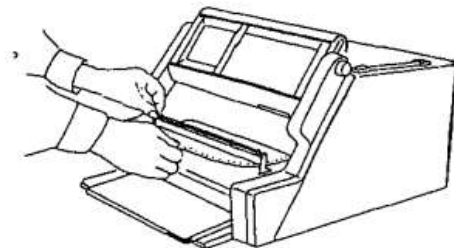

Fig. 3.1-6
- (4) When the chart paper comes out above the drum, set the right and left perforations into the sprocket of the drum and close the chart paper board. (Refer to Fig. 3.1-6)
- (5) Raise the chart paper holding arm. Pass the chart paper under the chart paper cutter and return the chart paper holding arm to the original position.
- (6) Press the FEED key to confirm that chart paper feeds correctly.